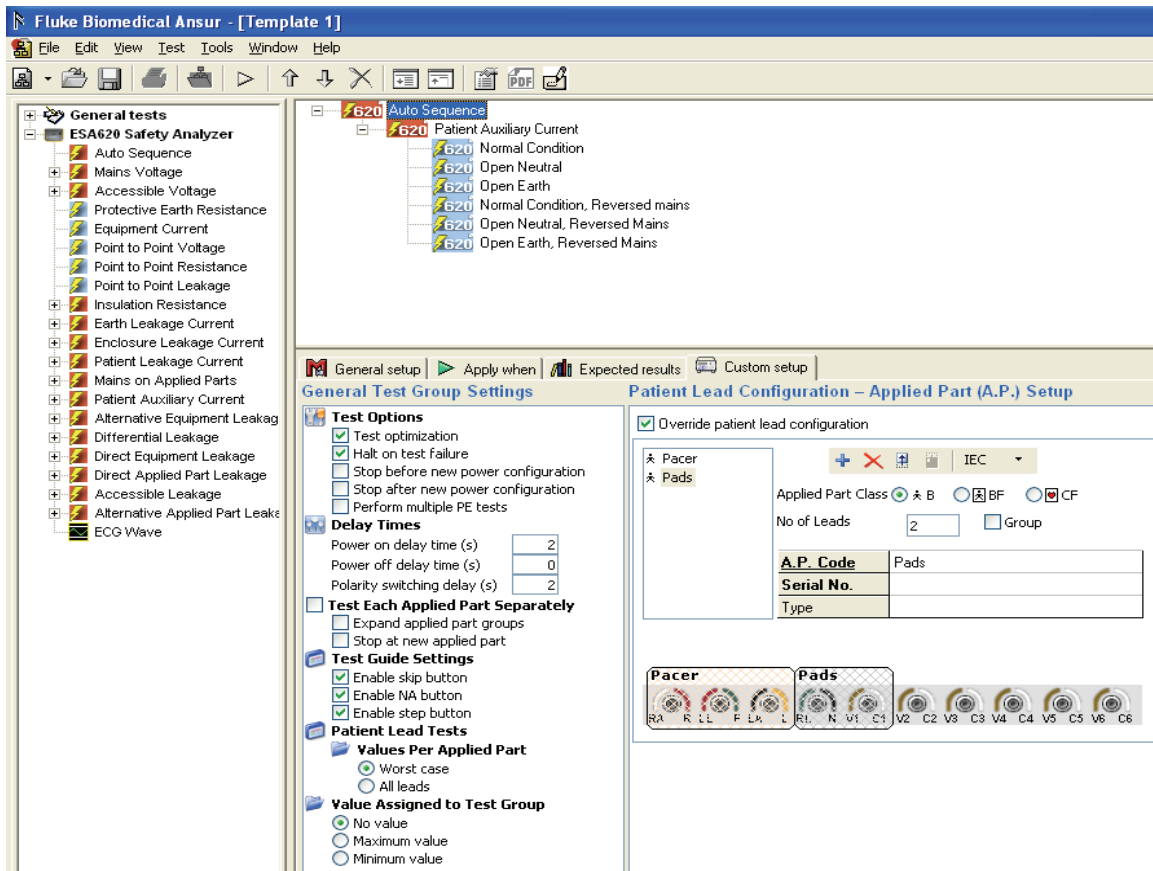

Figure 4-7. Patient Auxiliary Current Setup
2. Select the Auto Sequence in the template window and click **Custom setup** to display the custom setup for element as shown in Figure 4-7.